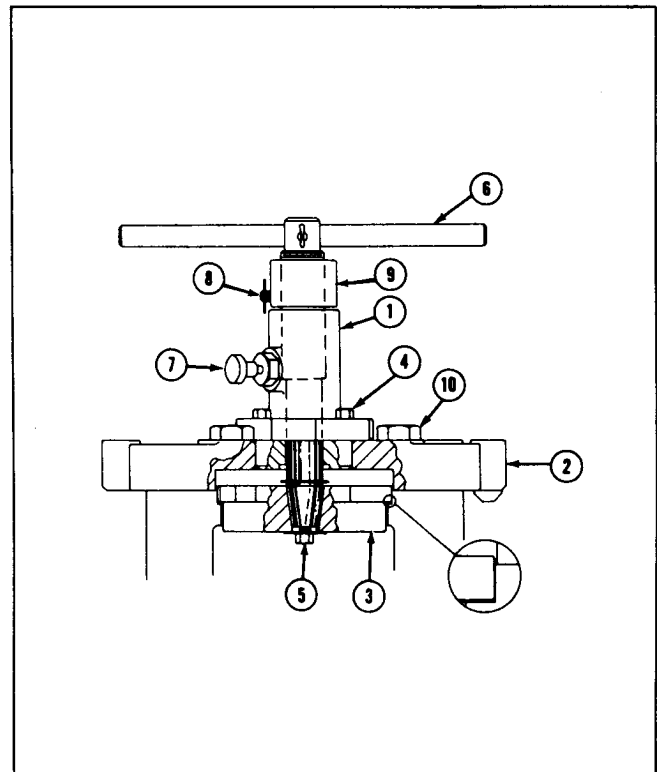

Fig. 1-18, (V40156). ST-1295 Counterbore Tool
Install ST-1065 Tool Holder (3, Fig. 1-18) onto driver unit (1). Fasten holder onto drive unit with capscrew (5).